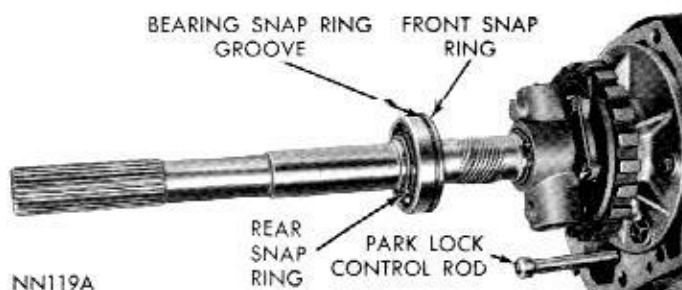

Fig. 20—Output Shaft Bearing
(1) Using heavy duty snap ring pliers C-4020, remove output shaft bearing rear snap ring and remove bearing from the shaft (Fig. 20).
(2) If removed, install snap ring in front groove on output shaft. Install a new bearing on shaft with outer race ring groove toward front (Fig. 20), then install rear snap ring.